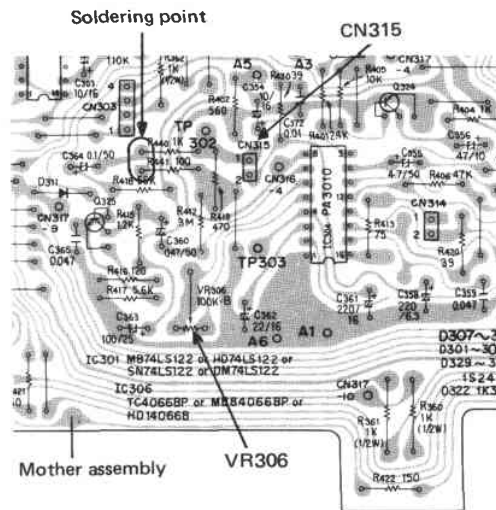

Fig. 12-7 Soldering point
2. If |-10dBv is exceeded, bridge the section shown in Fig. 12-7 by soldering.